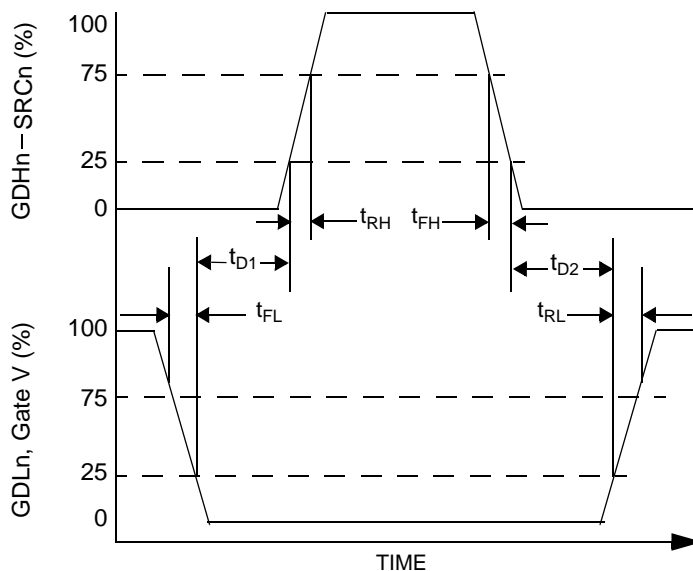

Figure 4. Shoot-Through Suppression
8. See Figure 4, page 8.
The control logic block controls when the low-side and high-side drivers are enabled. The logic implements the Truth Table found in the specification and monitors the M0, M1, PWM, CL, OT, OV, LSE, and HSE pins. Note that the drivers are enabled 3 μs after the PWM edge. During complimentary chop mode the high-side and low-side drives are alternatively enabled and disabled during the PWM cycle. To prevent shoot-through current, the high-side drive turn-on is delayed by t_{D1} , and the low-side drive turn on is delayed by t_{D2} (see Figure 4, page 8).